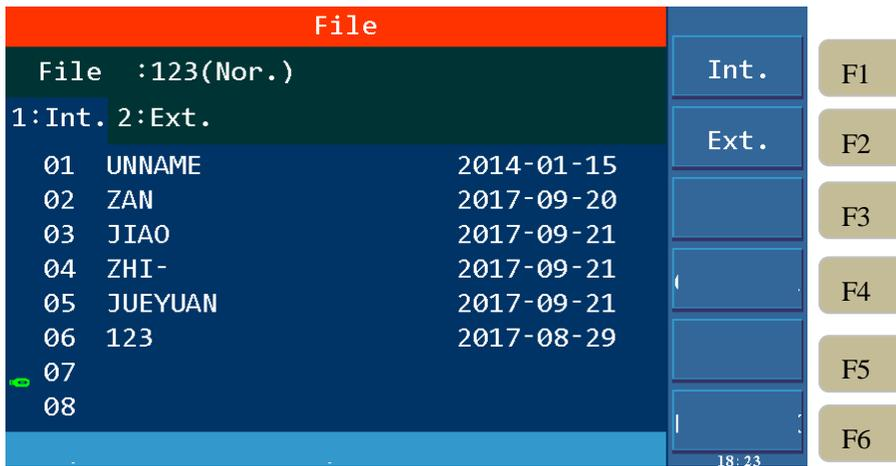

Figure 4-24 Internal File Interface
1. Press the [FILE] key to enter the file management interface, as shown in Figure 4-24.